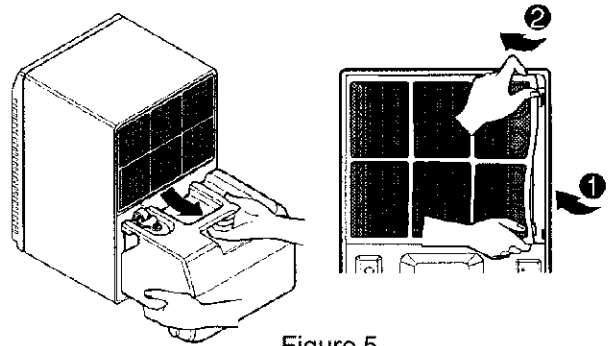

Figure 5
3. Remove the bucket. (See Figure 5.)
4. Flex the filter at the lower right corner and take it off. (See Figure 5.)